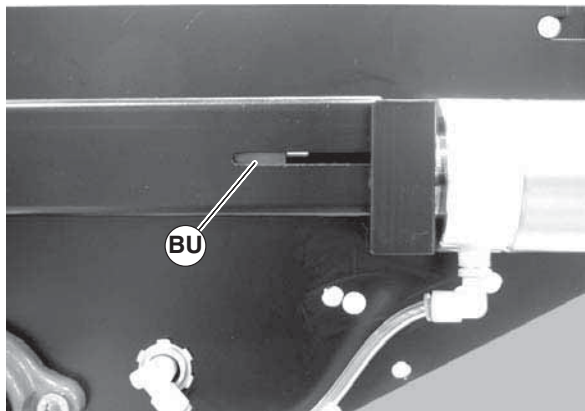

Figure 44
3. If proper belt tension cannot be achieved before the out of tension indicator (Figure 44, item BU) begins to turn red, the belt must be replaced.